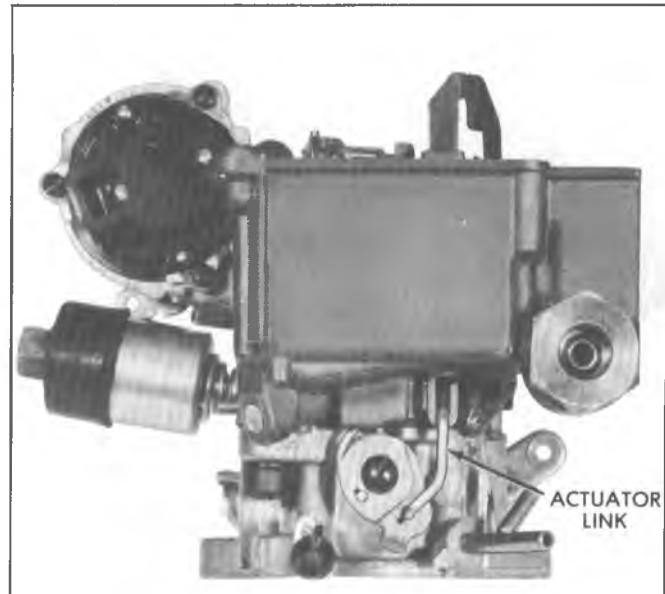

Fig. 6C-13--Pump Drive Link
6. Install pump ball, spring and "T" into pump discharge hole (Fig. 6C-10).
12. Install pump plunger assembly into pump well with actuating lever protruding through bottom of bowl casting. Push downward on pump lever and install pump assembly drive link into slot in lower end of shaft. Tang on upper end of link retains link to pump shaft (Fig. 6C-13).